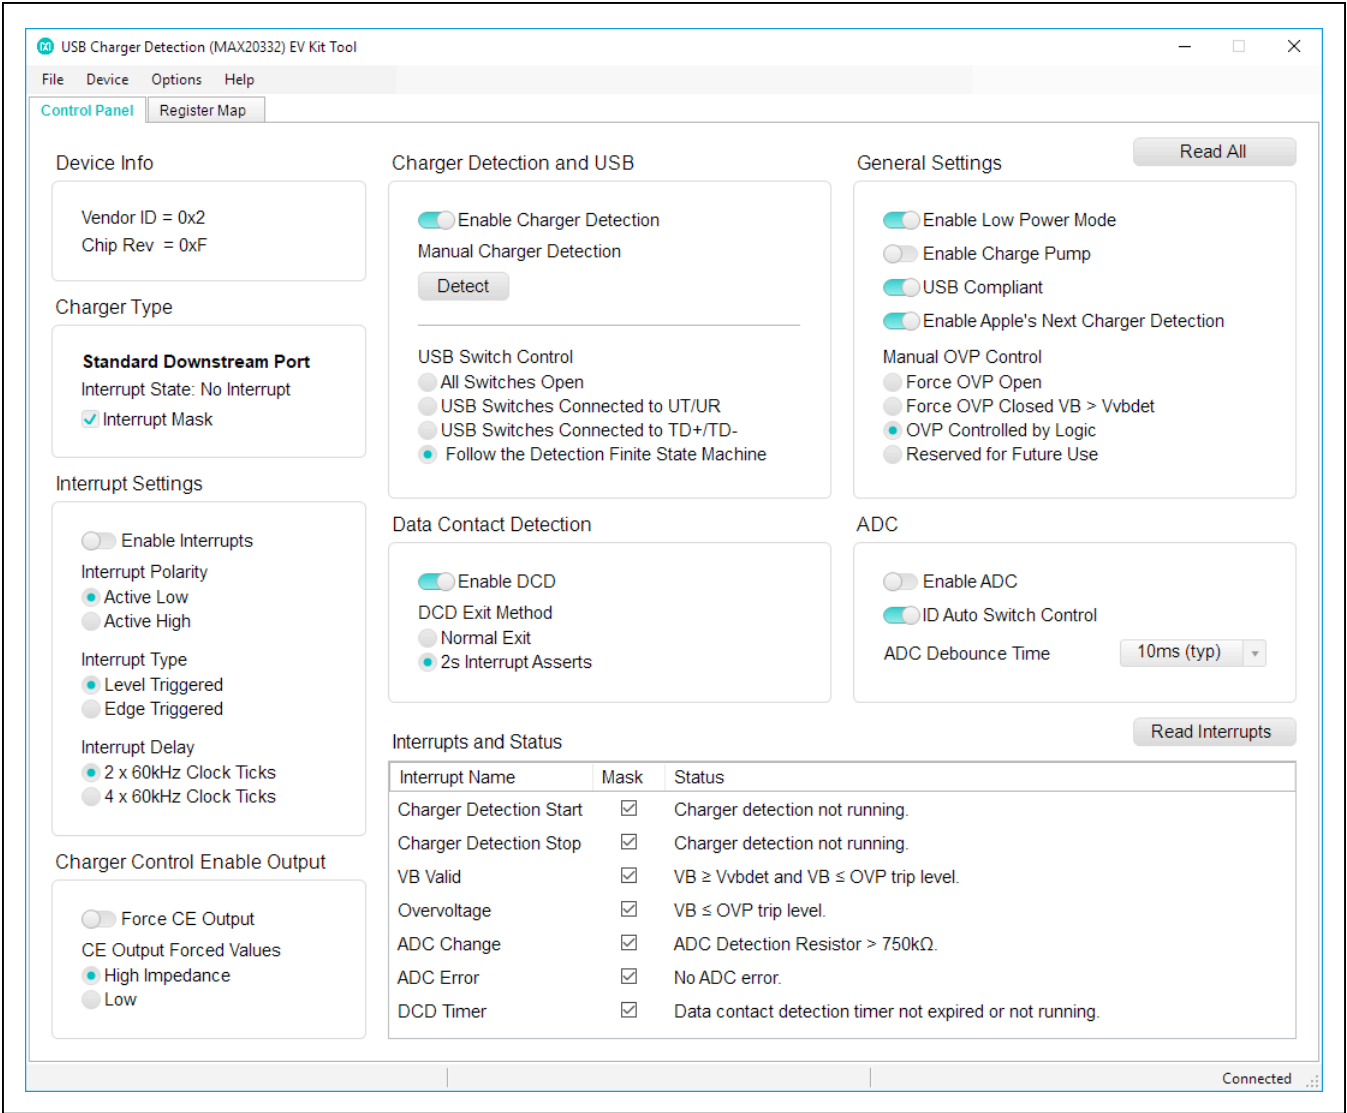

Figure 2. MAX20332 EV Kit Software Main Window (Control Panel Tab)
- 8) Start the MAX20332 EV Kit tool. The EV kit software main window appears, as shown in Figure 2.
The MAX20332 EV kit software GUI provides a convenient way to test the features of the MAX20332. Figure 2 shows the EV kit software's **Control Panel** tab sheet, while Figure 3 shows the **Control Registers** tab sheet.